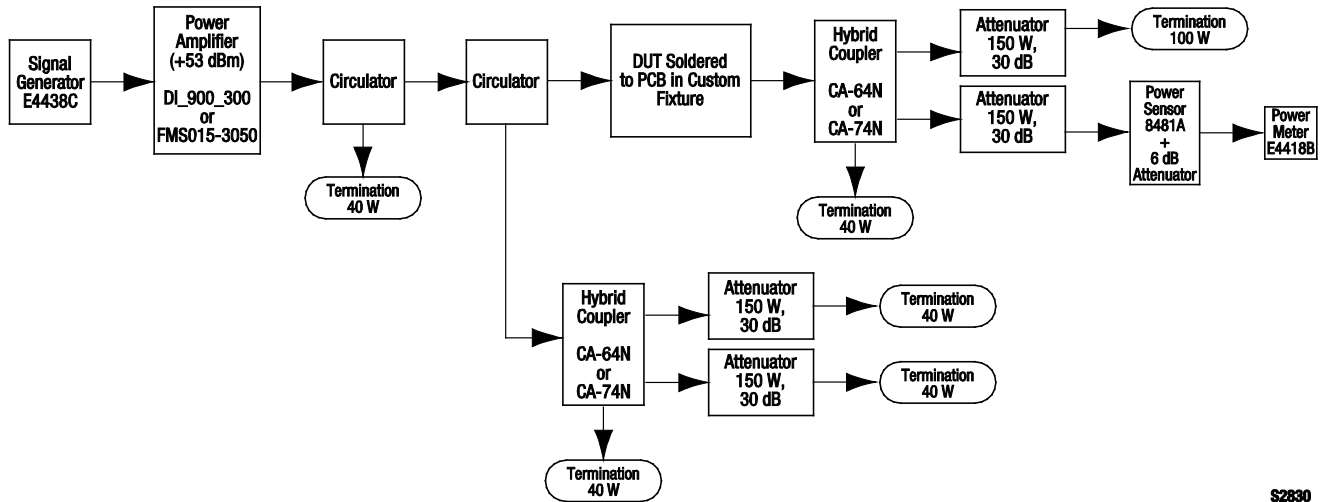

Figure 2. Test Setup
A block diagram that shows the test setup procedure is provided in Figure 2. The hardware used for this test is provided in Table 2.
1. Set up test stand (refer to Figure 2).